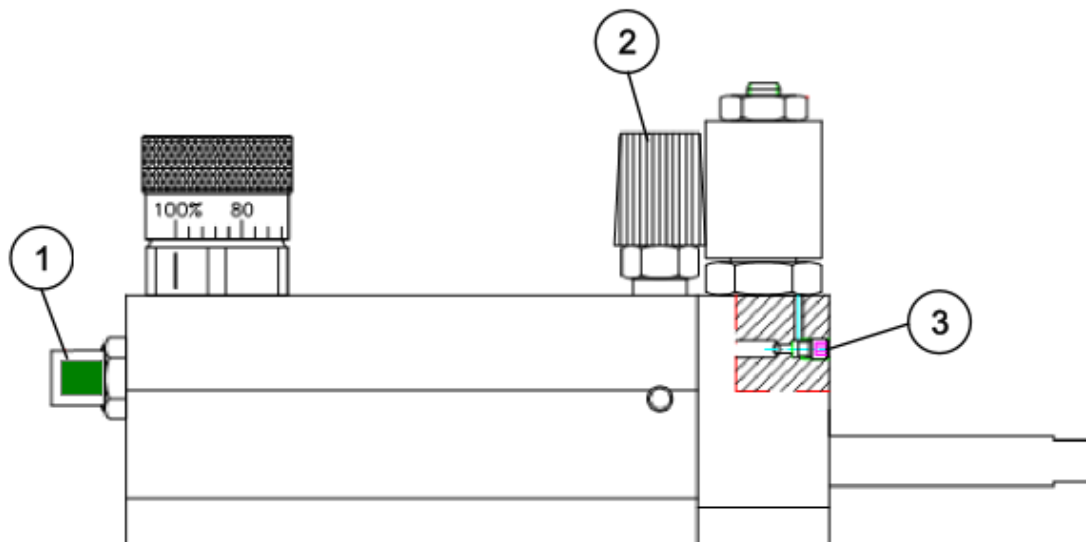

Fig. 15.
1. Check the oil level in the hydrocheck using the green oil-level indicator, see Fig. 15. Pos 1. At max. oil level, the indicator is completely visible, and when only 2 - 3 mm (.078 - .118 In) are showing it is advisable to add oil. If the green indicator is inadvertently depressed, it can be reset by manually pulling it out again. To grip the indicator pin, loosen the hexagonal protective sleeve. For refilling of oil see chapter "Oil refilling of the Hydrocheck".
2. If, for some reason, the green level indicator, see Fig. 15. Pos. 1, is fully visible when filling oil, it should be depressed manually.
3. Connect an oil injector to the oil filling nipple, see Fig. 15. Pos. 2, and fill oil until the green indicator pin is nearly completely extended again. **Note!** Discontinue filling just before the pin is completely extended to avoid excessive pressure in the system.
4. Whenever the hydrocheck has been disassembled or if air has entered the oil system, The system must be bled when filling oil. The hydrocheck must then be turned so that its piston rod is facing upwards as oil is being filled and the system is bled using the screw shown in, see Fig. 15. Pos. 3. **Note!** The piston rod must be completely depressed while filling oil. Begin filling with the bleeding screw open and when the oil stream is air-free, tighten the screw. Then fill with oil until the indicator pin Pos. 1 is extended.